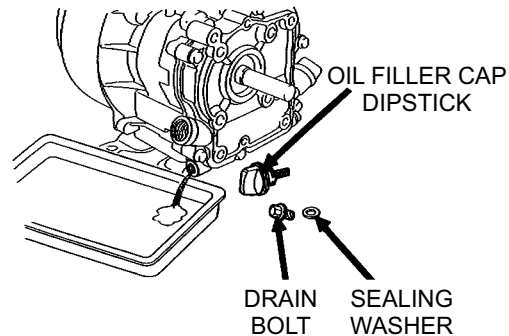

Figure 25. Draining Engine Oil
1. Drain the engine oil when the oil is warm as shown in (Figure 25).